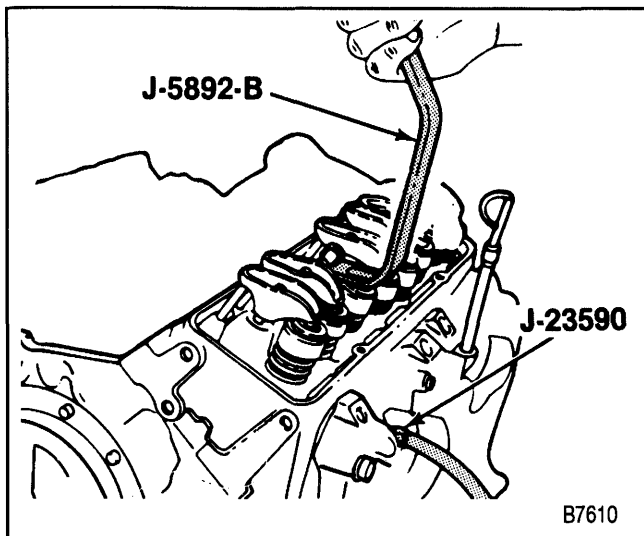

Figure 10—Compressing the Valve Springs
4. Valve keepers (20).
- C. Install a rocker arm nut (figure 10)
- D. Use J 5892-C to compress the valve spring (figure 10).
5. Cap (21) and/or rotator (28), shield (22), and spring (26) with damper (25).
6. O-ring seal (23) and seal (24) (intake valve only).
1. New seal (24) (intake valve only). Install the seal over the intake valve stem and seat it against the head.
2. Spring (26) with damper (25), shield (22), and cap (21) and/or rotator (28).
3. New O-ring seal (23) and valve keepers (20).
- A. With air pressure applied to the cylinder with J 23590, compress the spring with J 5892-C (figure 10).